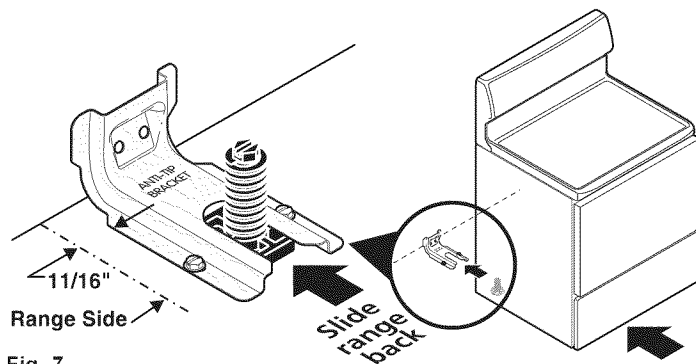

Fig. 7
**1c. Level and position range** - Level range by adjusting the (4) leveling legs with a wrench. NOTE: A minimum clearance of 1/8" is required between the bottom of the range and the leveling leg to allow room for the bracket. Use a spirit level to check your adjustments. Slide range back into position (See Fig. 7).
Carefully slide appliance into final position while inserting rear leveling leg into and fully engaging the Anti-Tip Bracket (See Fig. 7).